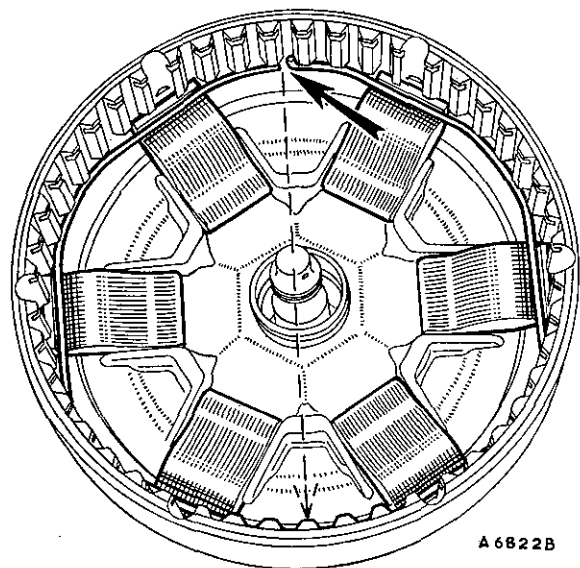
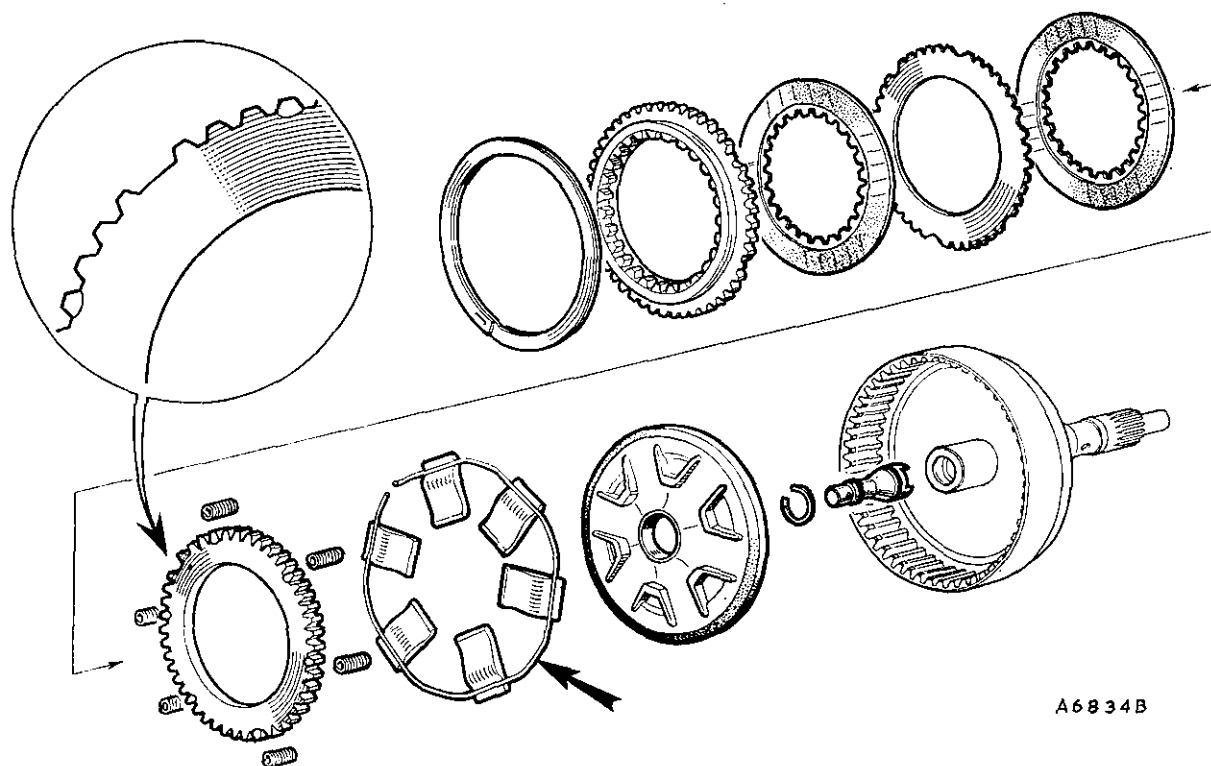
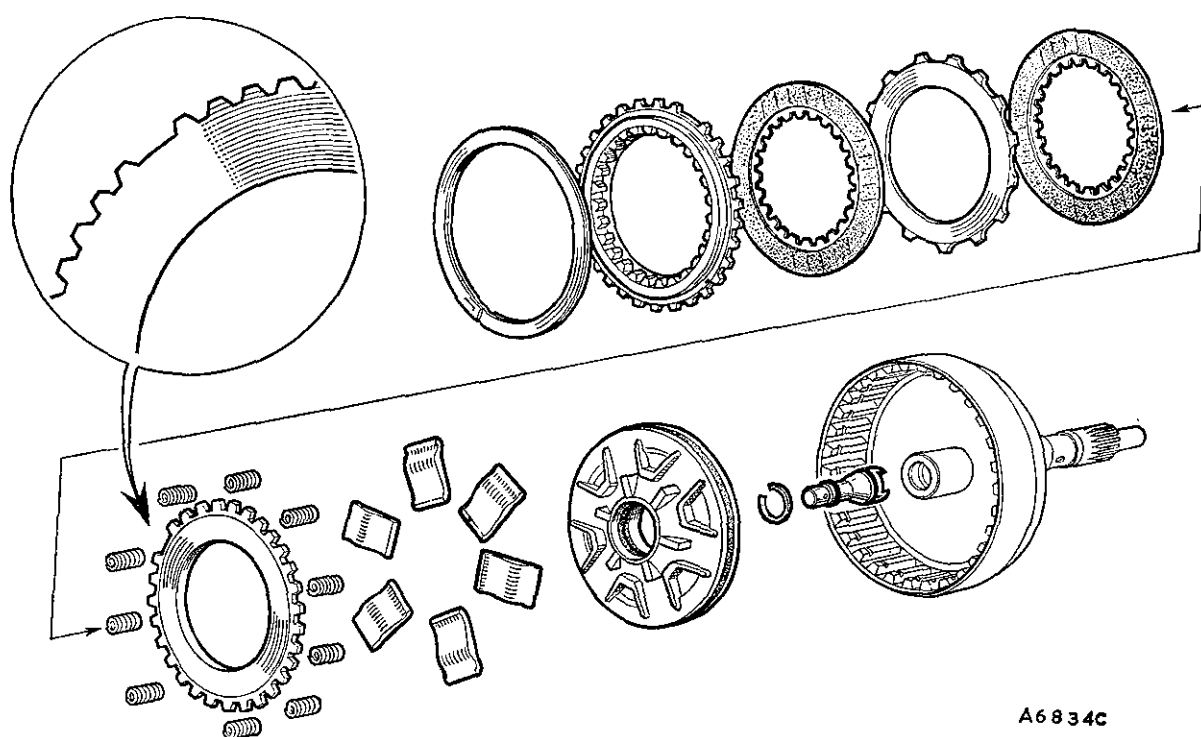
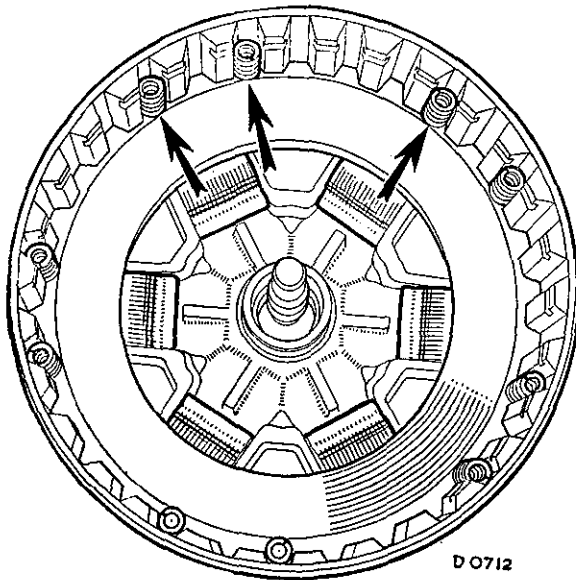

Fig. Fa.33
Fig. Fa.34
Fig. Fa.35
Fig. Fa.36
Two types of clutch assembly are in use; the earlier type having 47 teeth is shown in Fig. Fa.34. This unit is now replaced by the 30-tooth clutch as shown in Fig. Fa.35. The two clutch assemblies are not interchangeable; when a replacement unit is required only the identical unit to that removed must be fitted.
- (3) Remove the retainer plate and clutch plates (two paper, one steel).
(4) Lift out the piston return springs and pressure plate.
(5) Remove the spring ring (if fitted) and toggles (see Fig. Fa.34).
(6) Use an air pressure line to blow out the piston.
(7) Remove the circlip and lift out the reverse shut-off valve.
- (9) Using Service tool 18G 1102, assemble the piston with the lips of the seal facing inwards and lubricated with transmission oil.
- (10) 47-tooth clutch. Assemble the toggles and spring ring (early units) with the ends of the spring ring located as shown in Fig. Fa.33, and with the cut-out tooth on the pressure plate in the relative position to the ends of the spring ring (Fig. Fa.34). Assemble the clutch plates and the piston return springs.
- (11) 30-tooth clutch. Assemble the toggles, pressure plate, and the piston return springs as shown in Fig. Fa.36. Refit the clutch plates and the retainer plate (see Fig. Fa.35).